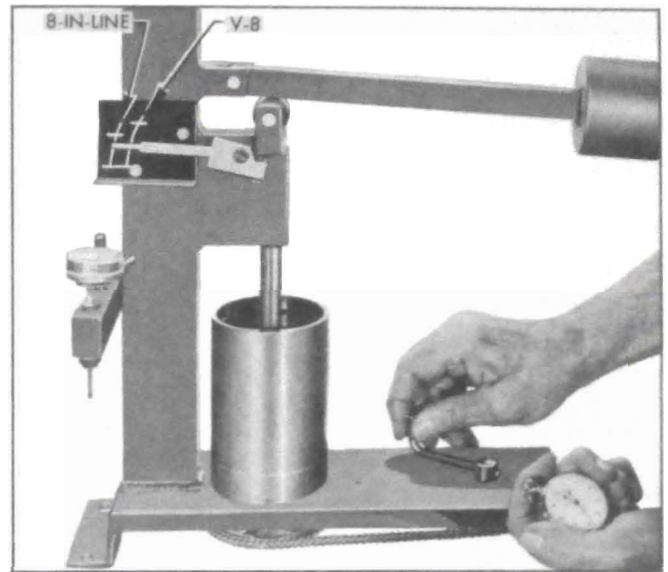

Figure 2-25—Checking Leakdown Rate
4. Lower the ram to rest in the lifter push rod seat, then lower the weight arm to rest on the roller of ram as shown in figure 2-25.
6. Raise weight arm to allow the lifter plunger to come up to its retainer, then lower the arm to rest on the ram roller. As the pointer starts moving upward start rotating the fluid cup by turning the handle one revolution every two seconds. See figure 2-25.
7. Use a stop watch to check the time required for the pointer to move from the lower to the upper mark on scale where marked "BUICK V-8." The cup must be rotated during this test. See figure 2-25.